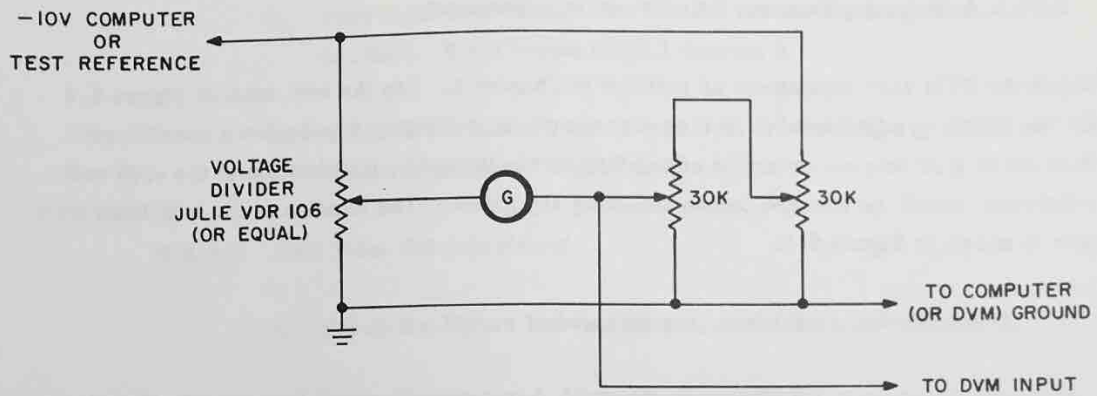

Figure 5.4. Test Setup for Full Scale and Summing Resistor Trim Pot Adjustment
2. Set up the test circuit shown in Figure 5.4. (The -10 volt test reference is obtained from the computer or as described in Paragraph 5.3.2 above.)
Check the DVM zero adjustment as outlined in Chapter 4. Use the test setup of Figure 5.4 for the following adjustments. If the accuracy check in Chapter 4 indicates a specific gate is in error it is only necessary to adjust that particular gate. (Calibration of the -100 volt reference should be checked before adjusting any gates.) The location of the individual trim pots is shown in Figure 5.2.
1. Set up the Figure 5.4 test circuit, check the zero adjustment.
1. Set up the Figure 5.4 test circuit; check the zero adjustment.